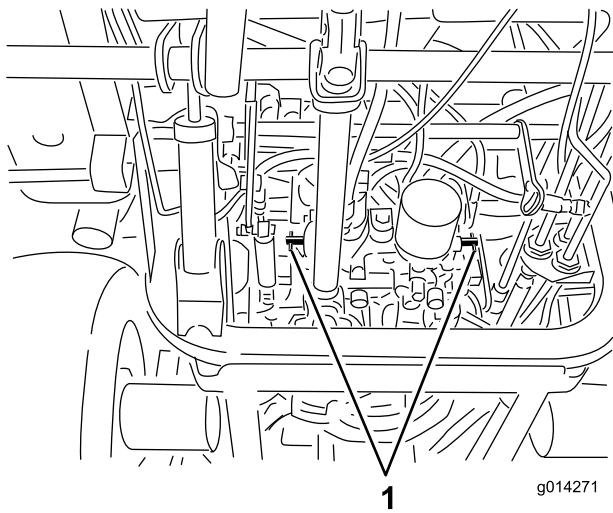

Figure 22
4. Rotate each by-pass valve counterclockwise 1 turn (Figure 22).
Rotate each by-pass valve clockwise 1 turn and hand tighten them (torque of approximately 8 N-m [71 in-lb]) (Figure 22).